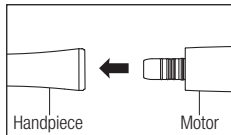

Fig. 9
- 5) Remove the handpiece from the motor. (Fig. 9)